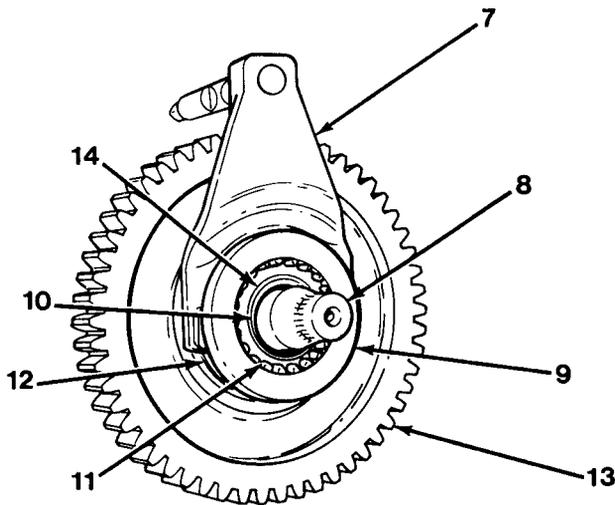

Figure 11-2
3. Install gear (13) on output shaft (8, Figure 11-2). Note position of marks made during disassembly.
4. Install snap ring (12) on output shaft (8).